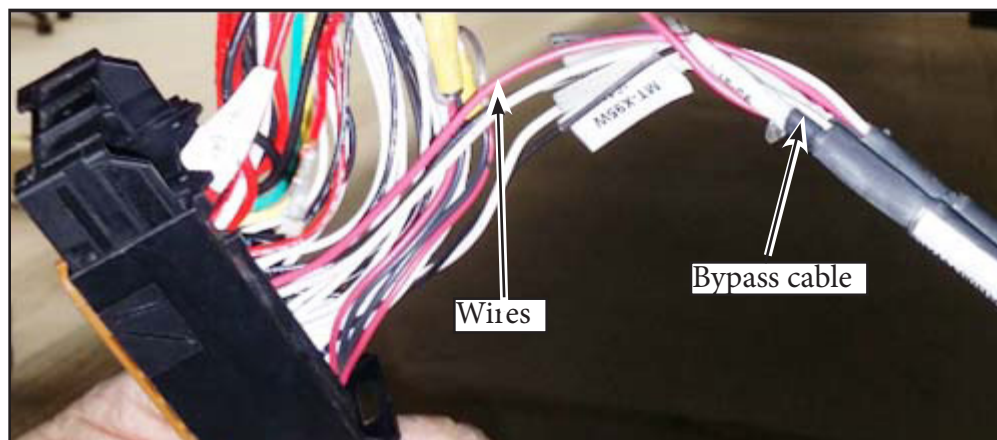

Figure 30 - Disconnect the Bypass Cable Terminals From the ECM Connector
- 2.17. Remove the electric cloth tape covering the wires entering the ECM connector. Disconnect wires at positions 9, 10, 33, 61 and 64 from the previously-installed bypass cable kit, then cut and tape back (see Figure 30).